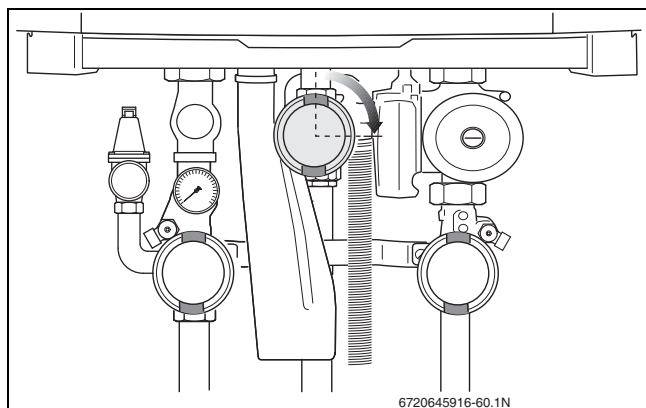

Fig. 63 Closing the gas valve
- ▶ Close the gas valve in a clockwise direction (→ fig. 63).
- ▶ Close the gas valve (→ fig. 63, page 36).